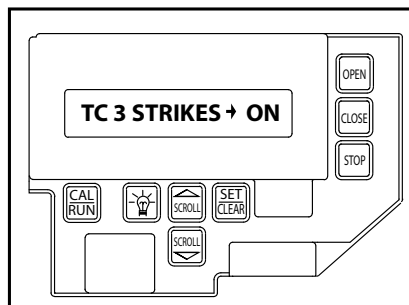

Fig. 5E 3 Strikes
1. Press the SCROLL DN key to shift to "TC>3 STRIKES> ON-OFF". Fig. 5E